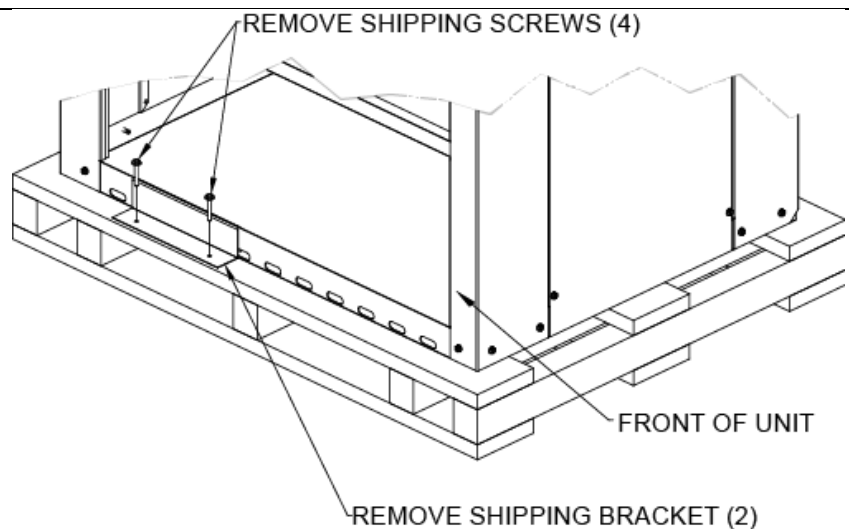
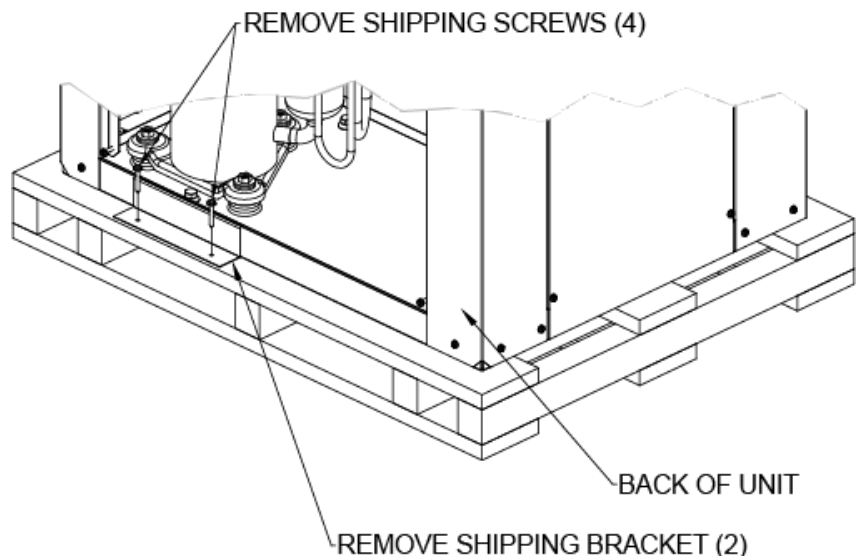

FIGURE 3 - Standard Packaging with Brackets - Front View
FIGURE 4 - Standard Packaging with Brackets - Back View
- 9) Ensure that the shipping brackets and screws are removed from the chassis section. Refer to **FIGURE 3 - Standard Packaging with Brackets - Front View** & **FIGURE 4 - Standard Packaging with Brackets - Back View** for more information.
- a. Check that the gas manifold is firmly in place on the burner box and secured with the provided screws (4).